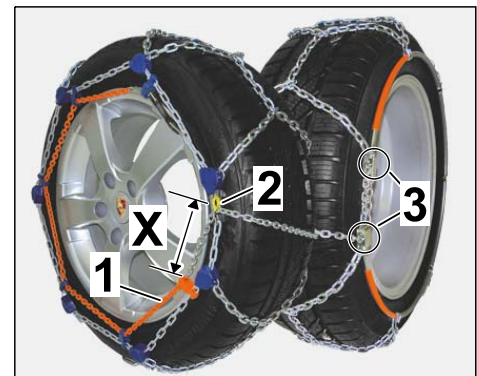

Figure 15
2.4 Check that the snow chain is fitted correctly on the wheel (⇒ *Figure 15*)
- The area marked in red on the tensioning chain must be pulled completely through the slot on the locking plate. The distance between the area marked in red and the slot on the locking plate (dimension X ⇒ *Figure 15 -X-*) can vary depending on the tyre size.
- Position of deflection roller/tensioning points (inside of wheel ⇒ *Figure 15 -4-*): Must **NOT** be lying on the running surface of the tyre or touching the road.